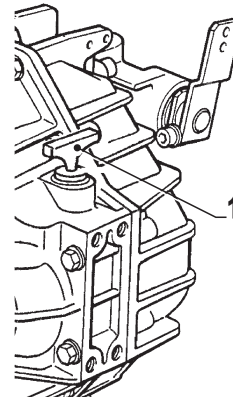

FIG. 2-1
Unscrew dipstick (item 1, Fig. 2-1) (counterclockwise) and pull out of housing.